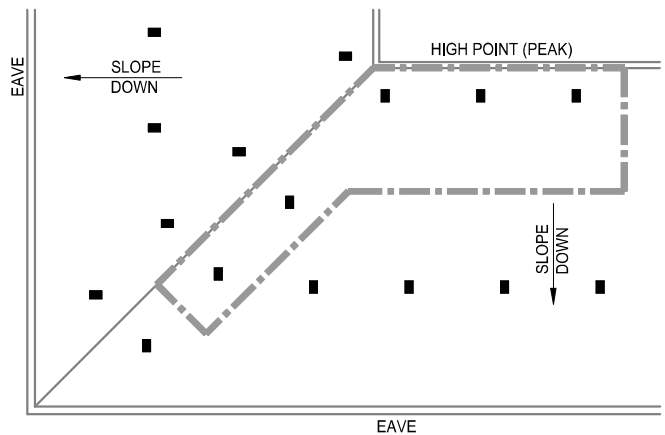

FIGURE 23B: 2 ROW PROTECTION CALCULATION #1
- Calculation #1: Calculate the 3 most hydraulically demanding contiguous DS sprinklers located along the high point (peak) plus the 2 most demanding sprinklers along the hip line. See Figure 23B.